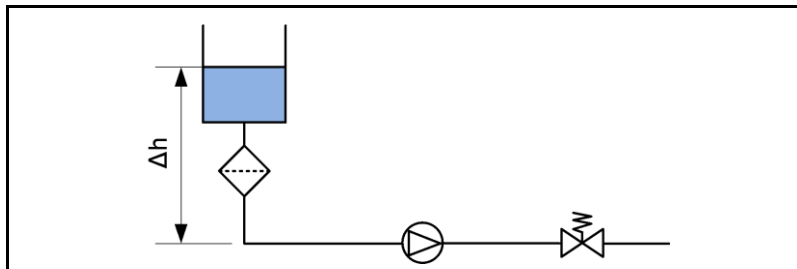

Fig. 68: Pressure test setup
1. Set up the system as shown in Fig. 68.